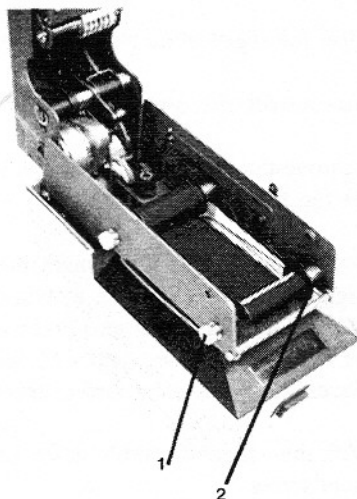

Figure 9
3. Pull the front spool plunger knob (Figure 9, Number 1) away from the unit. While holding the knob, slide the ribbon to the left and out.
6. Pull the front plunger knob out and position the new ribbon as shown in Figure 9. Align the spool with the posts on the ribbon spindle shaft and the spool plunger (Figure 9, Numbers 2 and 1).